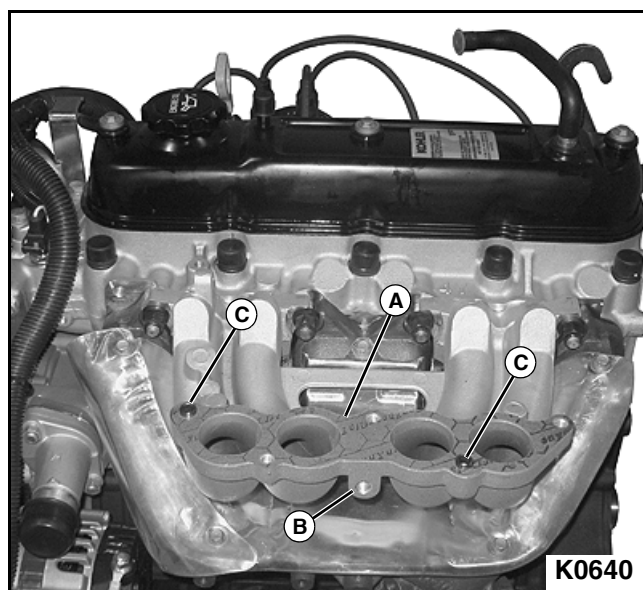

Figure 3-70
1. Install new upper-to-lower intake manifold gasket (A) to lower intake manifold (B). **See Figure 3-70.**